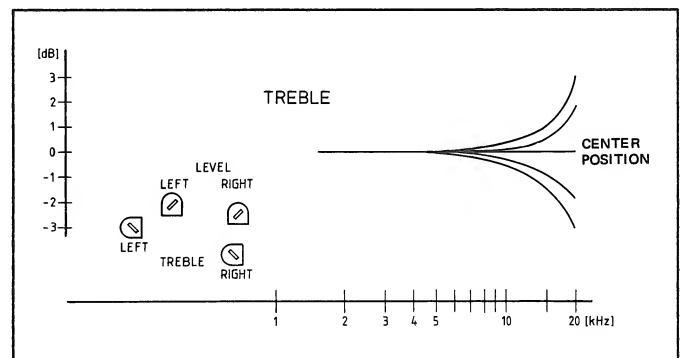

Fig. 5.3
- At level tone (250 nWb/m) adjust to an output voltage of +2 dBu (0.97 V) with the trimmer potentiometer R36 or R81 (level) on the INPUT/OUTPUT board (Fig. 5.3).
- With trimmer potentiometer R39 or R82 (treble) adjust to a linear reproduce frequency response at 16 kHz (Fig. 5.3).